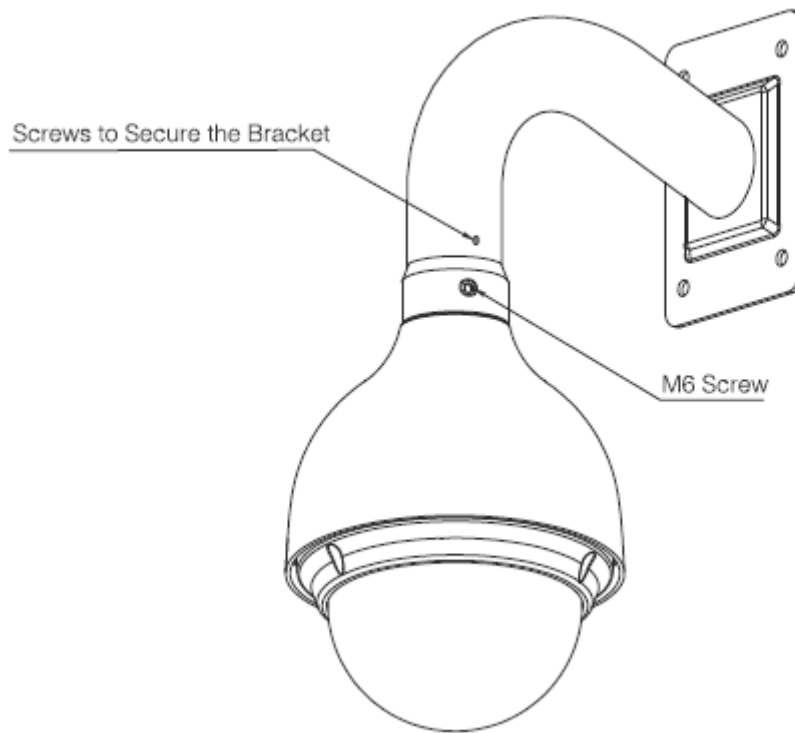

Figure 3-2
- 2) In Figure 3-2, connect the adapter block to the internal thread of the wall mount bracket, until it reaches the end and then fix the set screw. Pull the intelligent speed dome composite cable through the adapter block and pull it out of the other end of the wall mount bracket. Line up the hook at the top of the external enclosure to the inside hole of the adapter block and then push it to the end, and then secure the three screws of the adapter block firmly. **Please note this step is very important. Please make sure the screws are firm, otherwise, it may result in falling risk of the intelligent speed dome.**